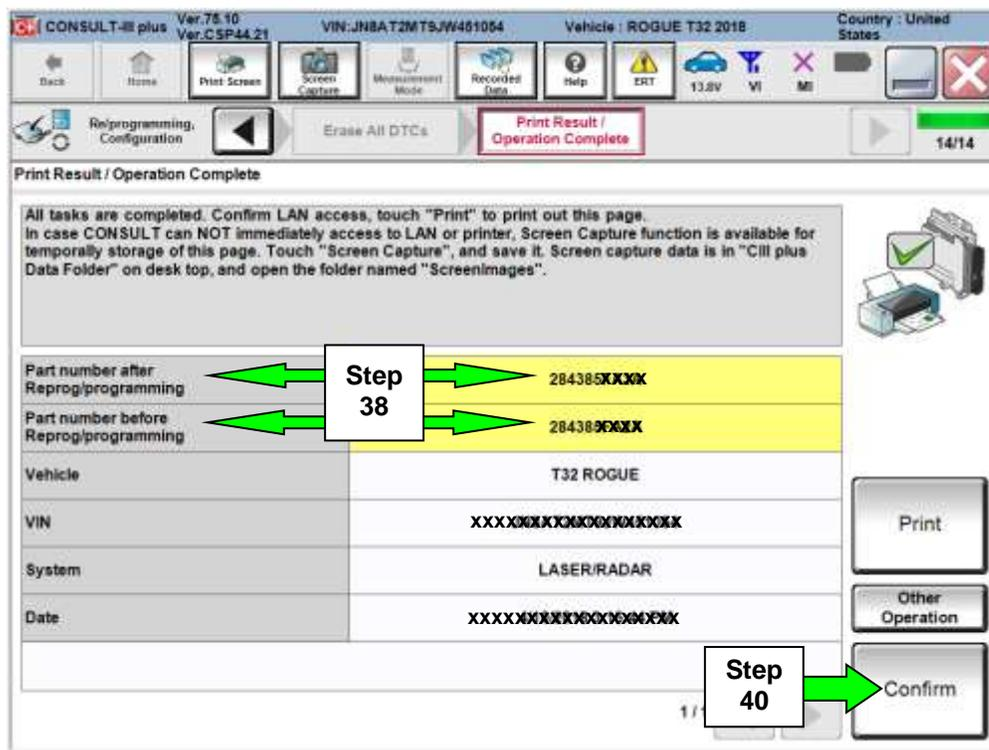

Figure 25
39. Print a copy of this screen (Figure 25) and attach it to the repair order.